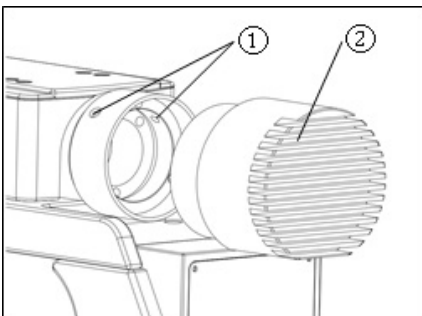

Fig. 10
4.2.8. Installing the LED Lamp House (Fig. 10)
1. Insert the lamp house ② into the position shown in Fig. 10 at the rear of the vertical illumination attachment.
2. Tighten the screw ① with the Allen wrench.